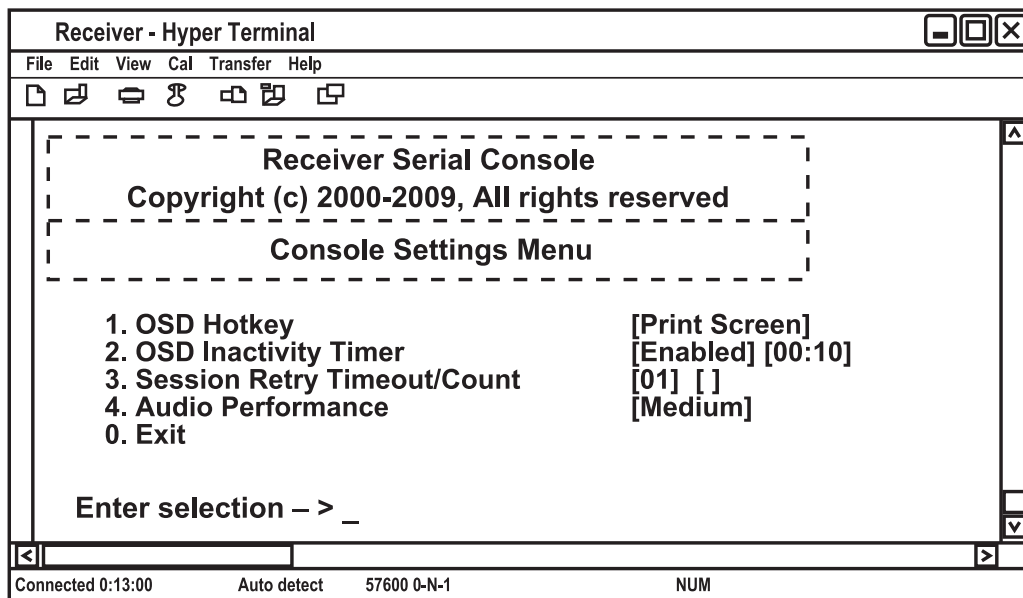

Figure 4-34. Receiver Console Settings Menu (Extender Mode).
2. Press "8" to access the Console Settings Menu. The Console Settings Menu will appear. Your currently selected OSD hotkey sequence is displayed beside menu item 1.
*NOTE: The layout of the Console Settings Menu is different for the Desktop and Extender modes. In the example in Figure 4-34, the screen is in Extender Mode.*